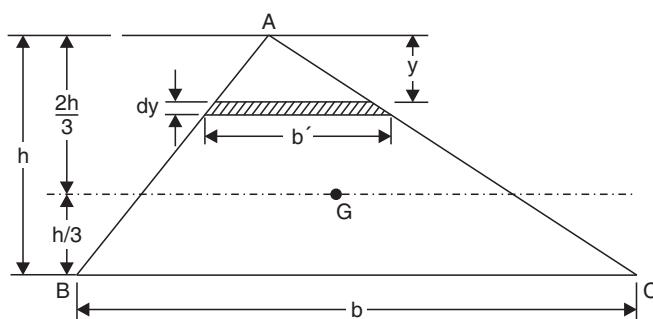

Fig. 8.11
**3. Moment of inertia of a triangular lamina.** Refer to Fig. 8.11. Let  $ABC$  be a triangular lamina of base  $b$  and altitude  $h$ .